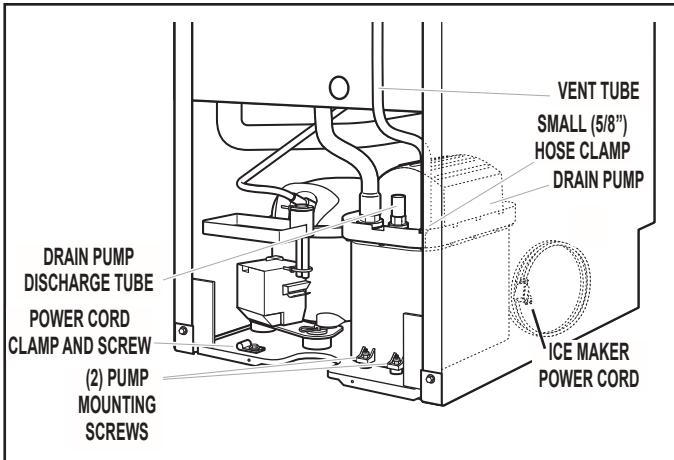

FIGURE 5
- Install vent tube (5/16" x 32") to pump reservoir vent. Use 5/8" adjustable clamp, supplied. See *Figure 5*.
- Remove power cord clamp and screw attached to ice maker power cord. This is located at the unit base. See *Figure 5*. Clamp and screw will be reused.
- Line up the two (2) screw holes at the rear of the pump. Use two (2) of the screws supplied in kit. See *Figure 5*.
- Coil ice maker power cord into a 4" diameter coil. Wrap electrical tape around the power cord in several places to keep the cord in a coil. Locate coiled cord between the drain pump and side of enclosure and plug into the receptacle of the drain pump. See *Figure 5*.
- Attach the drain pump power cord to ice maker unit base with clamp and screw (removed in step 5) that was used to attach ice maker power cord. See *Figure 5*.
- Attach 1/2" ID x 10' drain tube to drain pump discharge tube. See *Figure 5*.